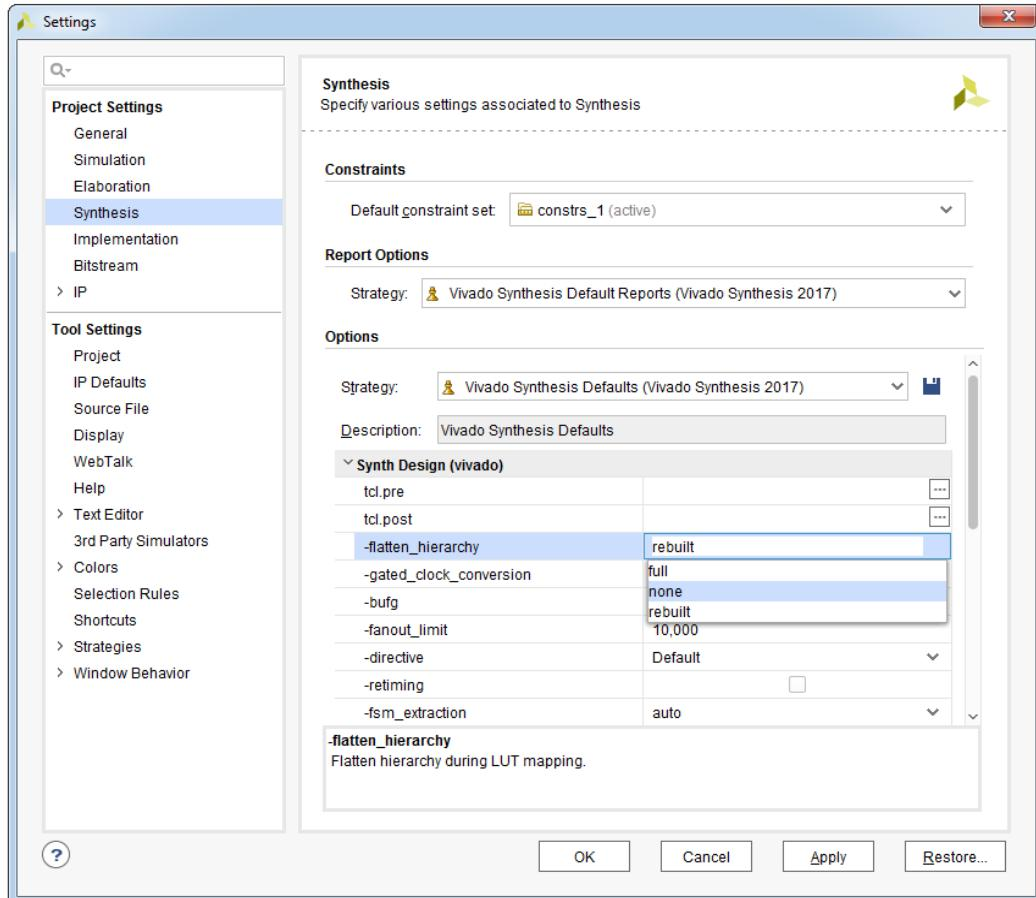

Figure 11.13: Project Settings dialog box
15. In the **Synthesis** window, change the **flatten_hierarchy** option from rebuilt to none as it is shown on the Figure 11.13 and click **OK**.